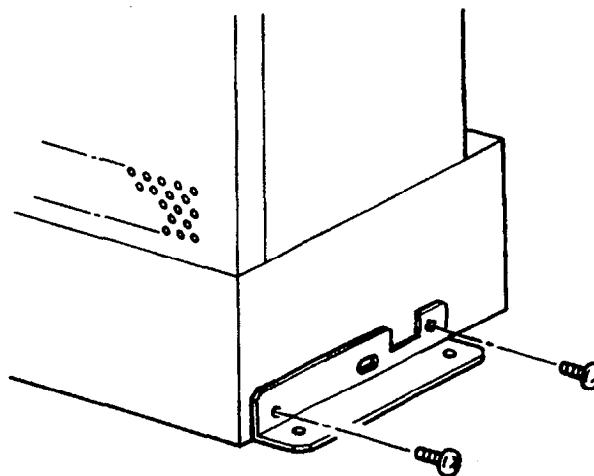

Figure 3-48 Attaching the Floor Mount Bracket to Basic KSU
1. Attach the Floor Mounting Bracket to the bottom side of the Basic KSU, using the bolts provided. Refer to Figure 3-48 - Attaching the Floor Mount Bracket to Basic KSU.